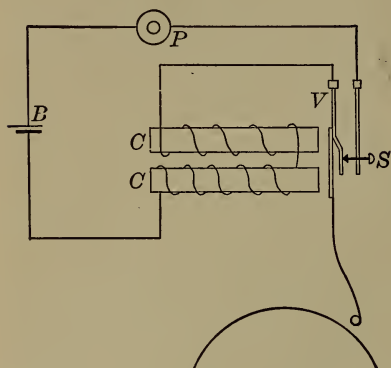

FIGURE 160.—WIRING DIAGRAM OF ELECTRIC DOORBELL.
**199. Doorbell and Buzzer.** — The doorbell is one of the most common applications of the electro-magnet. The current is started at the battery (*B*, Figure 160); goes through the coils *C, C*; then into the vibrator *V*; then into the set-screw *S*; then into the push button *P*; and, finally, back into the battery, forming a complete circuit.